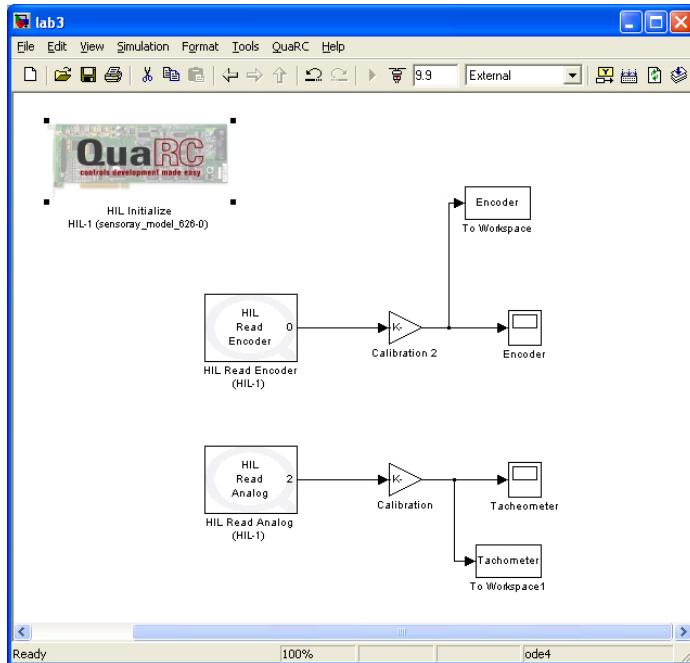

Figure 3.4: Another Simulink model for Lab 3
7. You will now introduce an impulse into the real system by providing a “jolt” by hand. This can be done by tapping the gear. Prepare the Simulink model shown in Figure 3.4. Note that there is no **Write Analog** block required in this case since you are providing